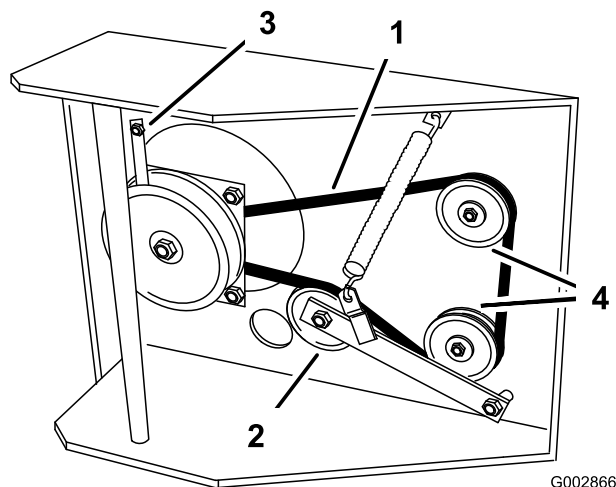

Figure 36
5. Disconnect clutch retainer from the engine deck (Figure 36).
6. Unhook tension spring from side of frame (Figure 36).
9. Torque pivot bolt to 35-40 ft-lb (47-54 N·m). Install tension spring between idler arm and frame bracket (Figure 36).
10. Install clutch retainer to the engine deck (Figure 36).